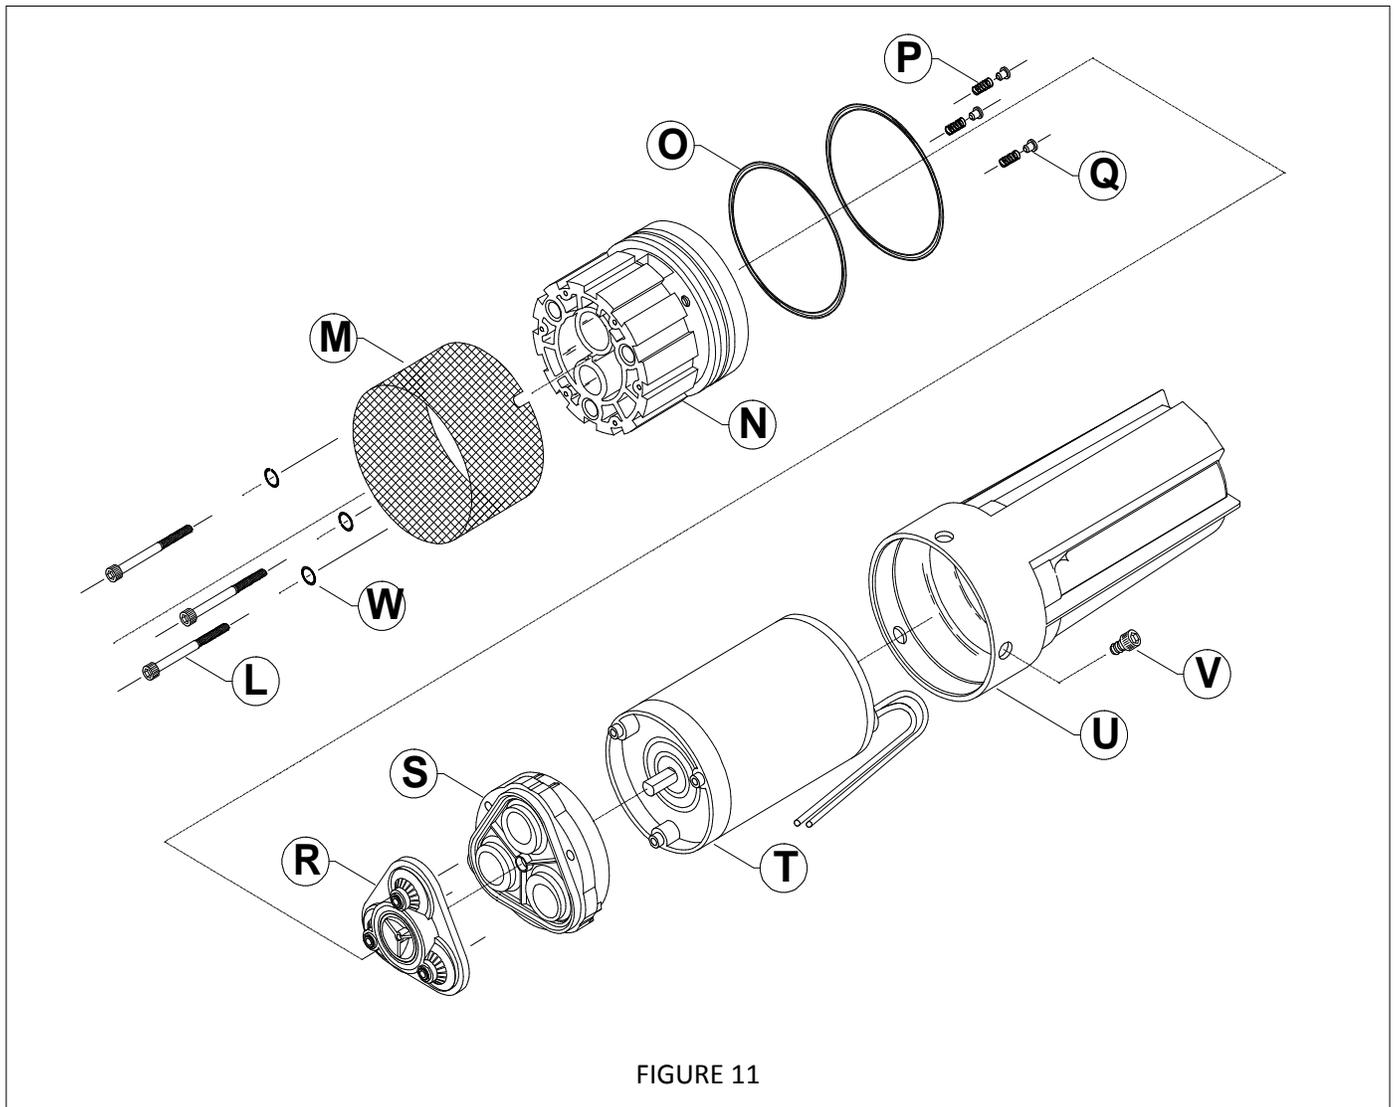

FIGURE 11
- 5.2 Pull up the Lift Plate (F).
Note: Be sure to put the O-Rings (I) back on the Lift Plate Posts (F). (Fig. 11, View B) before continuing to Step 6.
6. Remove the Filter Screen (M) for Cleaning
- 7.3 Use a 5/64" Allen Wrench to loosen the 2 screws (K) holding the motor leads and disconnect the Receptacle (Cable Adapter) (J).
8. Remove the Canister (U) (Fig. 11)
9. Remove Upper Housing (N) and Motor (T) (Fig. 11)
1. Install the Upper Housing Large O-Rings (O) (Fig. 11 & 12)
2. Install the Bypass Assembly (P and Q) (Fig. 11 & 12)
3. Install the Valve Housing Assembly (R) (Fig. 11 & 12)
4. Install the Lower Housing Assembly (Part S) (Fig. 11 & 12)
5. Install the Motor (T) (Fig. 11 & 12)